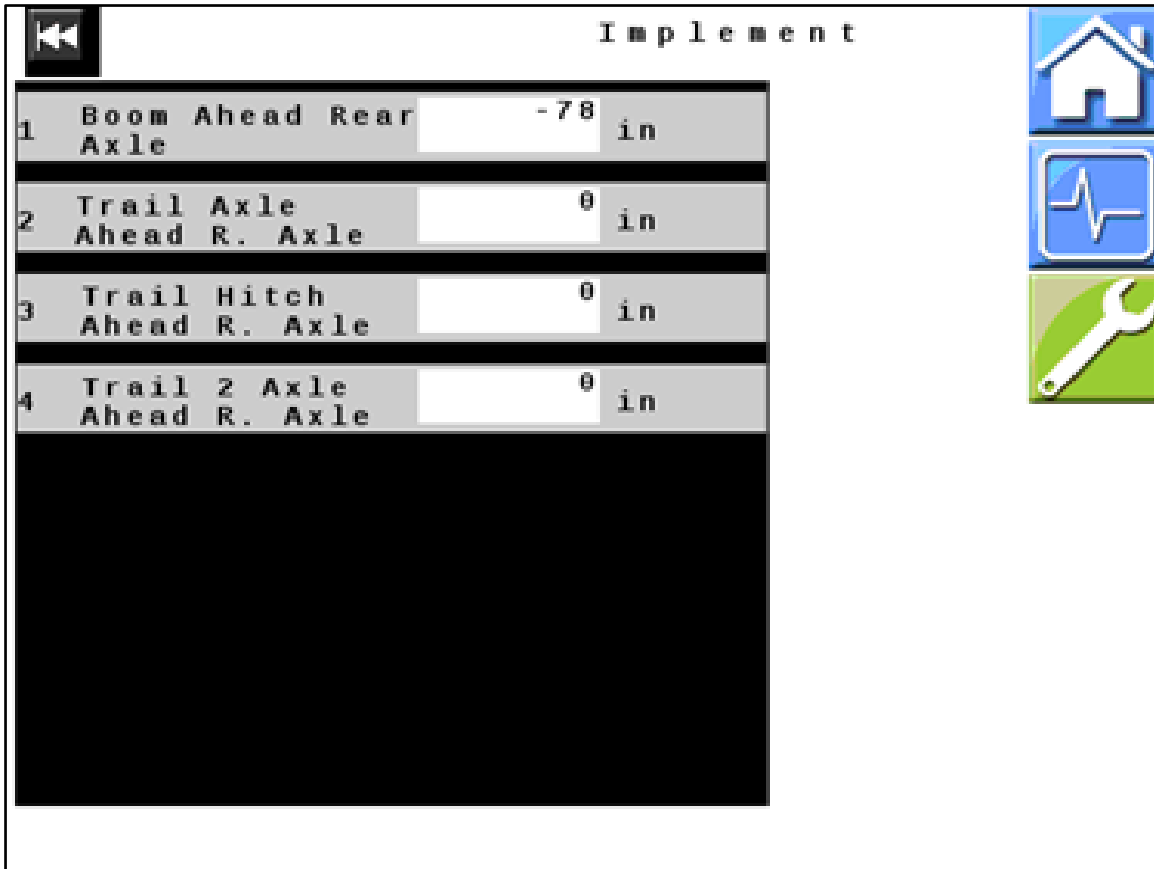

Figure 20 — Implement
34. *Figure 20:* Verify that all values displayed on your unit match those shown here. Change values if necessary.